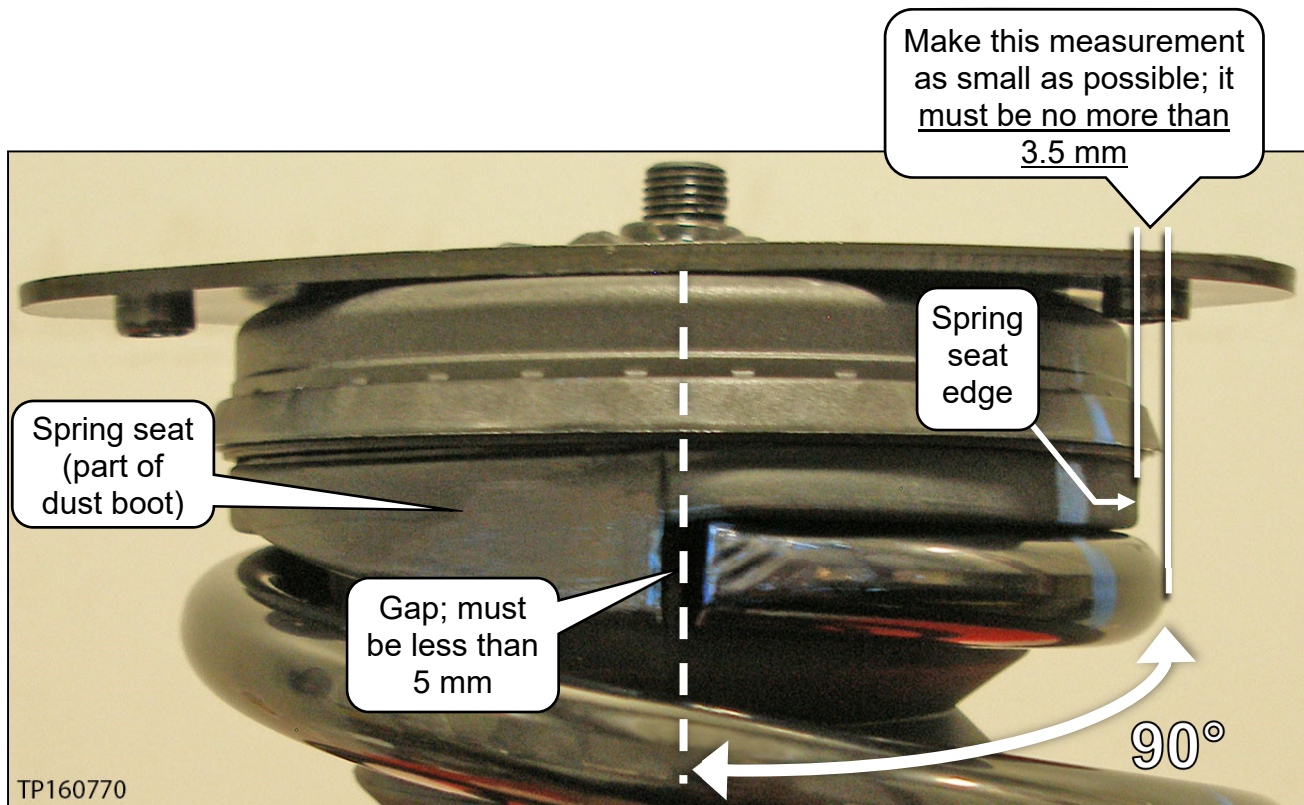

Figure 7
- The side edge of the upper coil spring (at about 90° counterclockwise from the gap), should stick out as little as possible. It must be no more than 3.5 mm from the edge of the spring seat (see Figure 7).